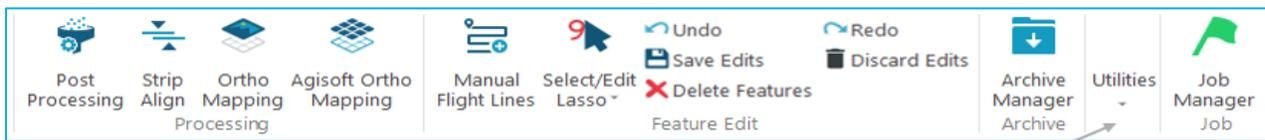
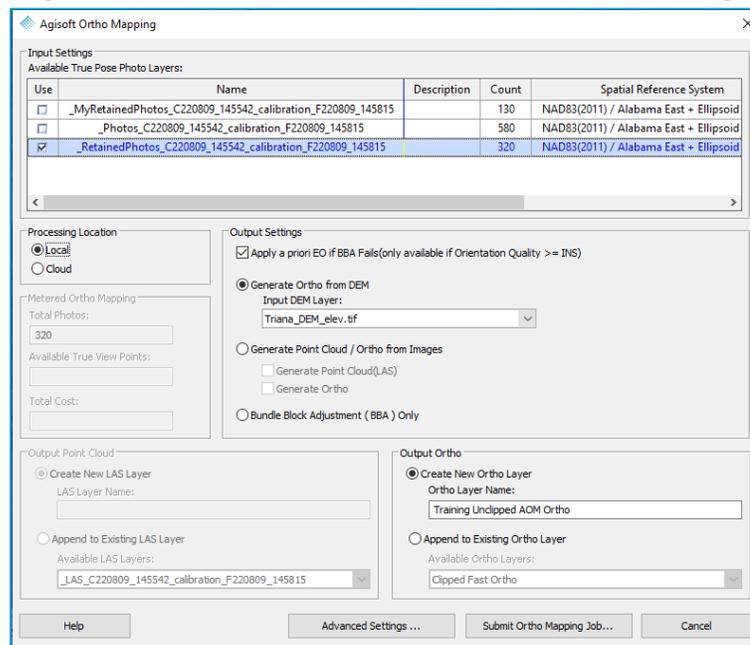

Figure 110 – Agisoft Ortho Mapping on the Sensor tab
Figure 111 – Agisoft Ortho Mapping dialog
- 28. Select **Agisoft Ortho Mapping**  on the Sensor tab (Figure 110) to open the Agisoft Ortho Mapping dialog (Figure 111). **Note:** To enable this tool requires a "Full Photo", "Photo with Agisoft", or "Photo3000" addon license be checked out in addition to the LP360 Drone license.